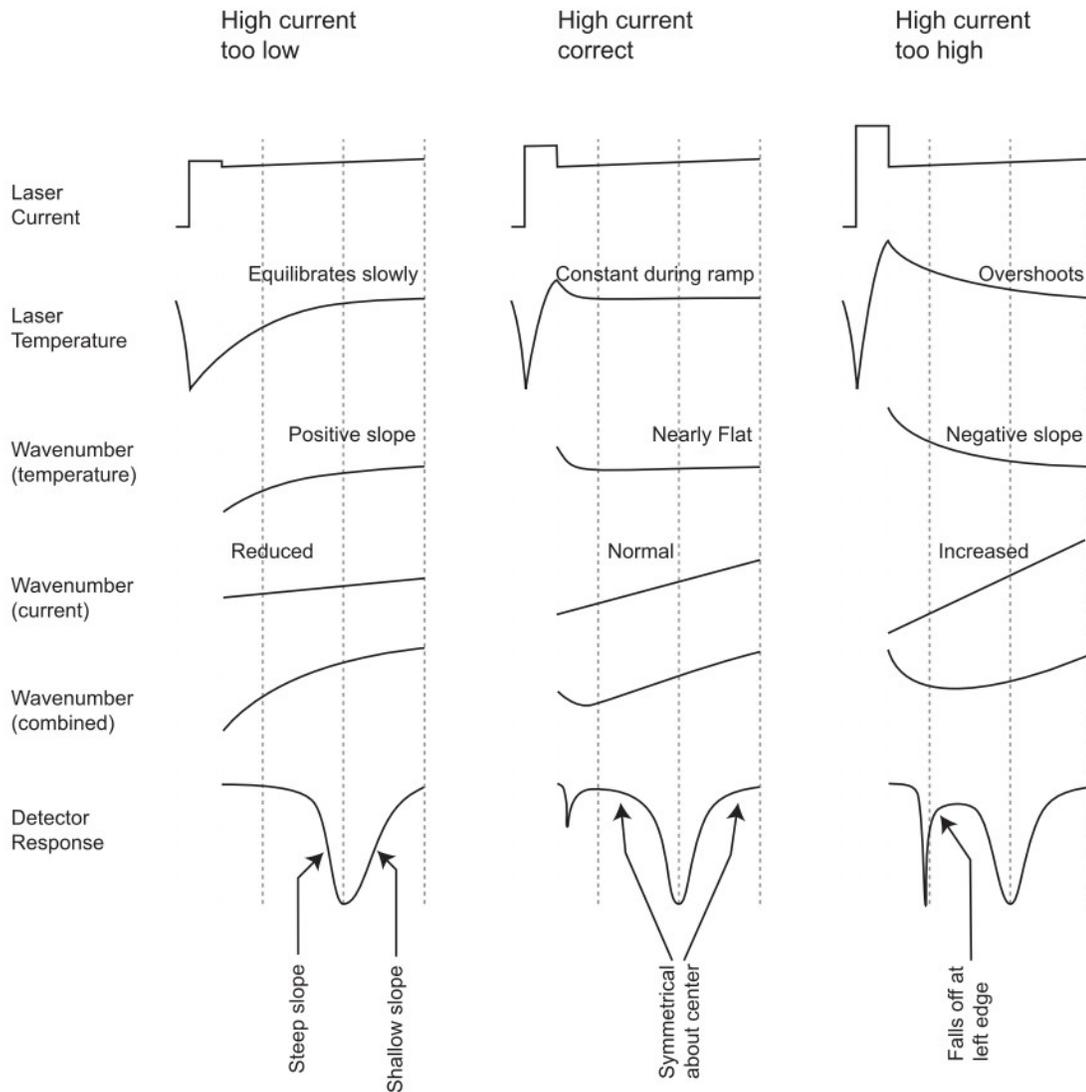
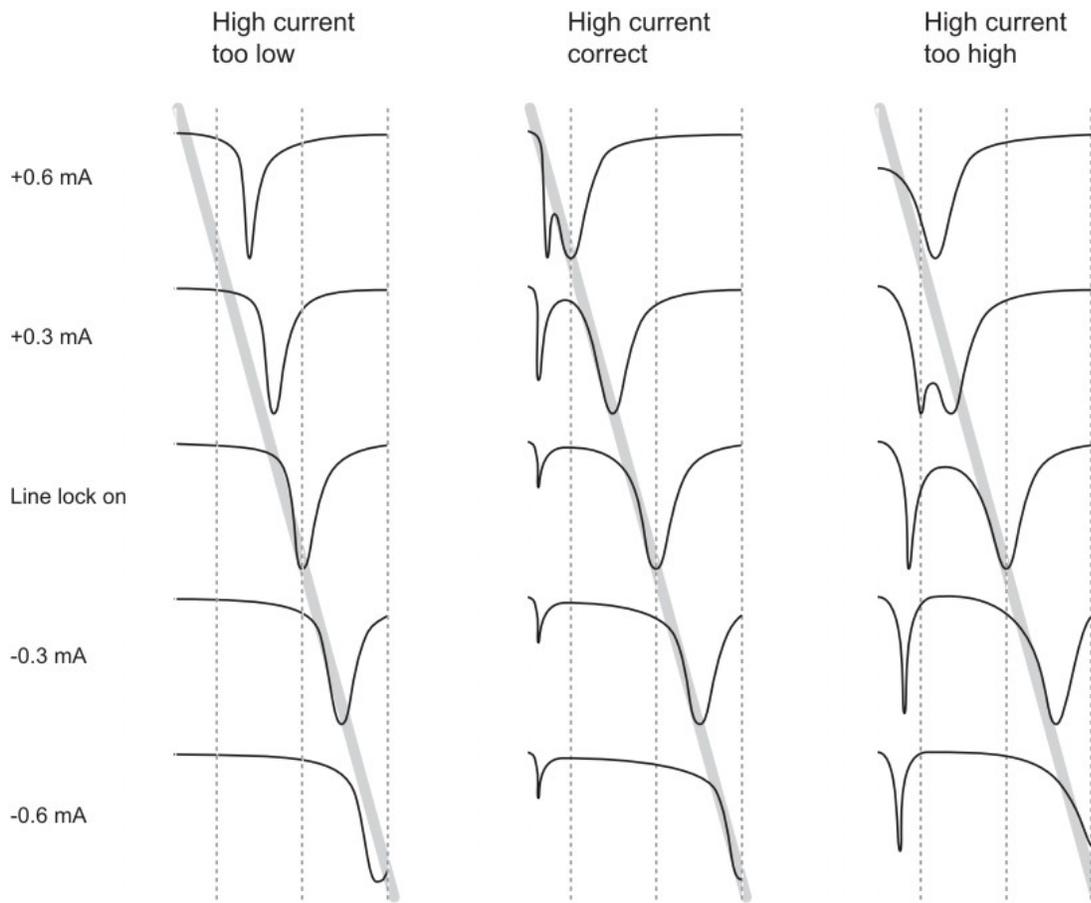

FIGURE C-6. Effects of temperature perturbation
FIGURE C-7. High current adjustment procedure
The laser cools slightly at the start of the spectral scan when it is turned off by reducing its current to the zero-current value, as discussed in Section 4.2.5, *Laser Scan Sequence*. If the actual spectral scan started immediately thereafter, the laser temperature would rise during the entire spectral scan. The rise in temperature would be more rapid at first, but slow near the end of the scan as the temperature approached equilibrium. The change in temperature would change the laser's emission frequency, adding an undesired spectral modulation, as illustrated in the far left panel of FIGURE C-6. To minimize this problem, the laser current is increased above the DC current by an amount specified in the *High current offset* parameter. The duration of this high current pulse is determined by the laser *High current count* parameter. When these parameters are properly set, the heat from the increased current compensates for the heat lost when the current is reduced, stabilizing the laser temperature more quickly.
As shown in FIGURE C-6, improper high-current adjustment makes the absorption line appear asymmetrical. The goal of the high-current adjustment procedure is to make the absorption line symmetrical about its center.
A more objective method to evaluate this symmetry is to adjust the DC current to move the absorption line to the left and right of the center line. If the high current is adjusted properly, the absorption line will move the same distance left/right of center for the same change ( $\pm$ ) in DC current. This is illustrated in FIGURE C-7. The left panel shows that with the high current too low, changing the DC current by +0.6 mA moves the absorption line only halfway to the left edge of the scan, but changing the DC current by -0.6 mA moves it all the way to the right edge of the scan. In the center panel, the absorption line moves symmetrically, all the way to the left and right edge of the spectral scan for the same ( $\pm$ ) change in DC current.
12. Evaluate the results and iterate as needed using the steps below and referring to FIGURE C-7:
- If the high current is too high, the laser's frequency will overshoot the absorption line at the beginning of the spectral scan, quickly scan backwards through the absorption line, and then scan forward through the absorption line. This is visible in the reference detector display as a second narrow absorption line at the left edge of the spectral scan data. See FIGURE C-6 and FIGURE C-7. This is acceptable as long as this "ghost" line is in the omitted part of the scan. But if the signal falls off at the left edge of the scan as illustrated in the lower right of FIGURE C-6, the high current must be reduced (even if the "counting steps" criterion indicates the high current is already too low).
- When incrementing the DC current, it may not be possible to move the absorption line to the left edge because the two absorption lines (the true line and its "ghost") may merge just inside the left vertical dotted line (see FIGURE C-7, top right). This also indicates the high current is too high.